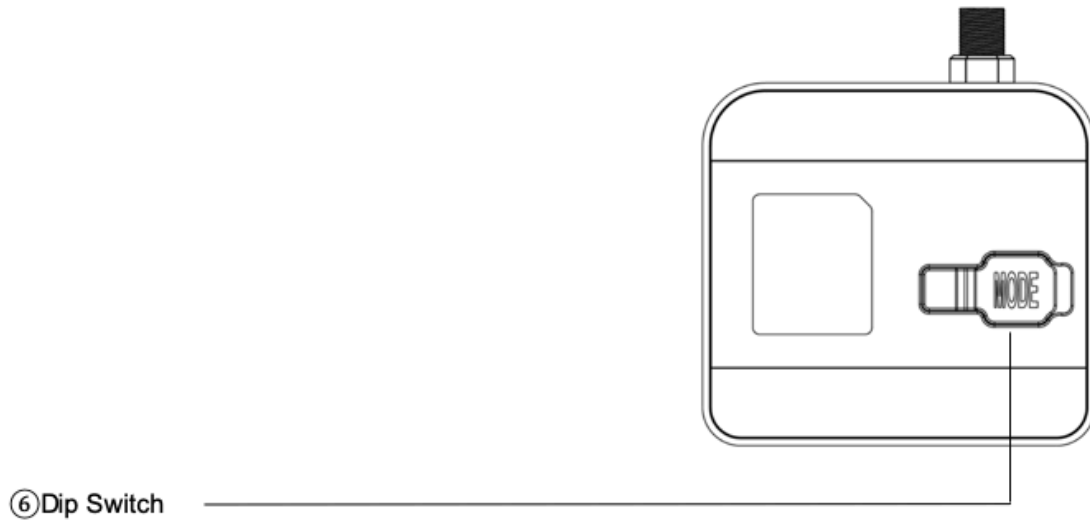

FIG. 1-3-2 Appearance (Back)
Switch between Serial mode and HID mode by switching Dip Switch 2's ON/OFF switch (see FIG. 1-3-2⑥) of the ASR-P37U.